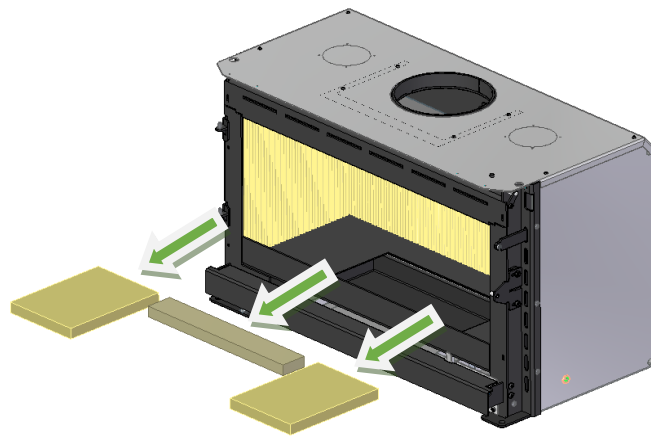

Figure 40 – Removing the vermiculite bottom
2. Remove the 3 pieces of vermiculite from the bottom by moving upwards and removing from the equipment, Figure 40.
c. Remove the vermiculite from the bottom of the interior of the combustion chamber and then unscrew the bottom screws that secure the box, the box, once unscrewed, comes out from under the equipment, see Figure 40.